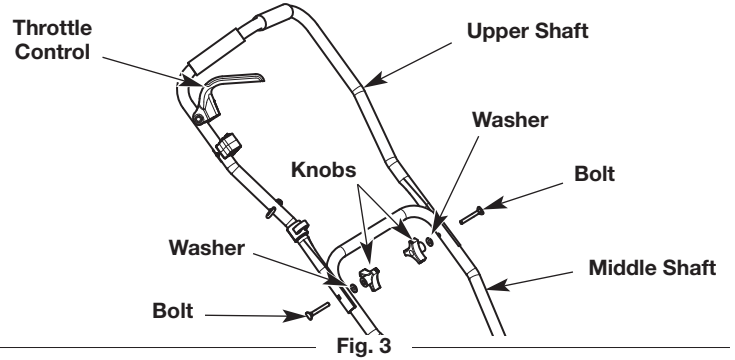

Fig. 3
2. Align the holes on the upper shaft with the holes on the middle shaft (Fig. 3).
3. Insert a bolt into each of the aligned holes (Fig. 3).
4. Install a washer onto each bolt (Fig. 3).
5. Install a knob onto each bolt (Fig. 3). Tighten the knobs securely.